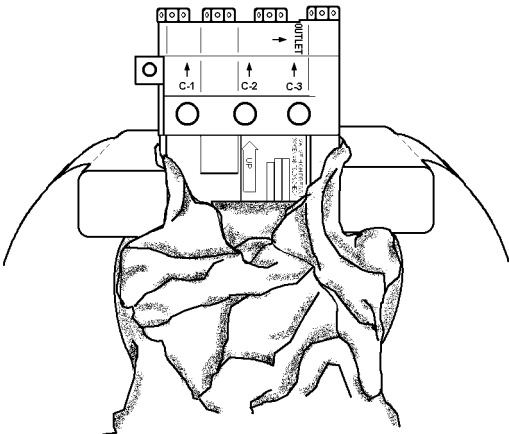

Figure 10-5. Installing Manifold and Check Valve Assembly in Vise
- 1. Remove adapter/nipple fittings (1) from filler, outlet, C1, C2, and C3 ports.
When performing step 2, wrap two flat surfaces on filler and outlet port sides of lower body (8) with a material such as cloth or rubber to protect lower body from damage when installing in vise (figure 10-5).
- 2. Carefully position lower body (8) into vise with two flat surfaces on bottom sides of lower body, mating jaws of vise with inner body (6). C1, C2, and C3 arrows are pointing up.
- 3. Using wire cutters, carefully cut and remove safety wire from four bolts (2). Discard safety wire.
- 4. Loosen, but do not completely remove four bolts (2).
- 6. Remove four bolts (2) from manifold and check valve assembly. Separate upper body (4), inner body (6), and lower body (8).
- 7. Remove and discard three O-ring packing (3) from upper body (4) and three O-ring packing from inner body (6).
- 8. Remove three poppet assemblies (5) from inner body (6) and three poppet assemblies (5) from lower body (8).
5. Install three O-ring packing (3) into cavities on bottom side of upper body (4).
6. Position upper body (4) onto inner body (6) and lower body (8).
7. Insert four bolts (2) into upper body (4), inner body (6) and lower body (8) and cross check tighten four bolts (2) evenly until the three bodies mate together. Place manifold assembly in vise (figure 10-5).
8. Sequentially torque four bolts (2) to 60 in-lb, then to 100 in-lb and finally, 150 in-lb. Safety wire four bolts (2).
9. Wrap pipe threads of 5 fittings (1) with two turns of antisieze tape.
10. Install 1 each of fitting (1) into filler port, outlet port, C1, C2, and C3 ports. Tighten all fittings hand tight, then using a wrench, tighten an additional one to two turns maximum. If leakage occurs when performing External Leakage Test during Bench Test, tighten fittings (1) an additional 1/2 to one full turn.